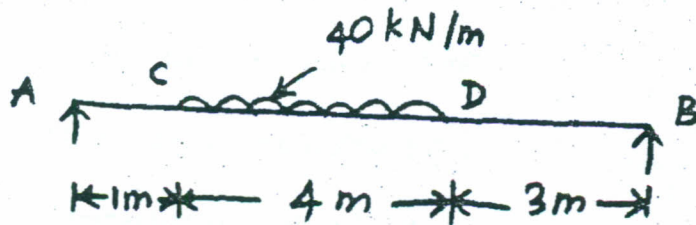

Fig. Q. 14(a)
14. (a) Determine the deflection of the beam at its mid span and also the position of maximum deflection and maximum deflection. Take $E = 2 \times 10^5$ N/mm² and $I = 4.3 \times 10^8$ mm⁴. Use Macaulay's method. The beam is given in Fig. Q. 14(a).